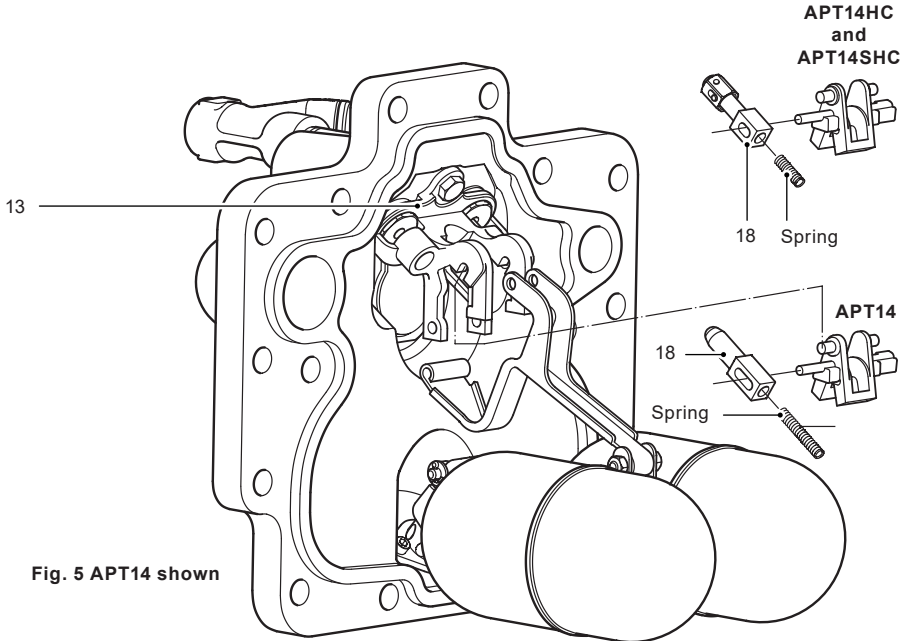

Fig. 5 APT14 shown
6. Draw the actuator arm with the exhaust valve downwards within its slots until it becomes free. It may be necessary to slide the exhaust valve (item 18) backwards against its internal spring to free it from the pump bracket guide (item 13), see Figure 5.
10. Ensure the actuator is correctly aligned and located within the slots of the pump bracket (item 13) (see Figure 5).
12. Always use new split pins and washers when refitting the spring retaining shaft (Y) and pump pivot shaft (X).